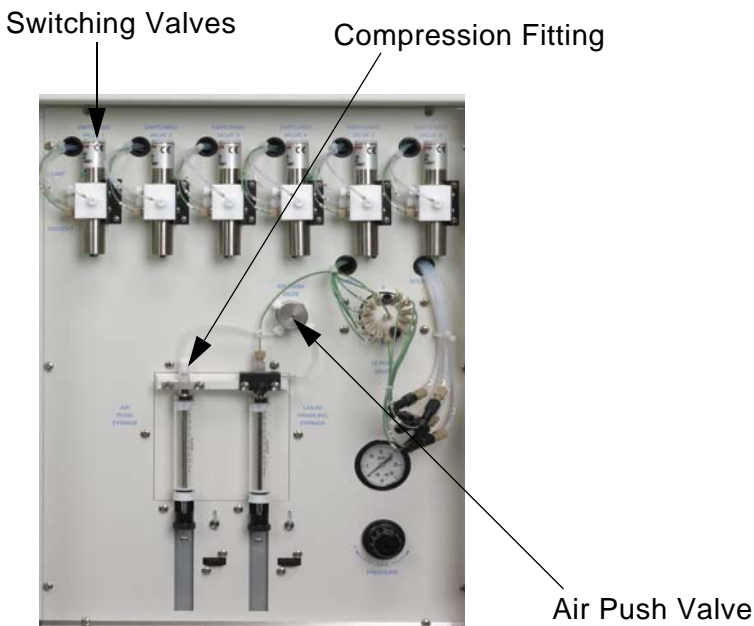

Figure B-15. Dionex AutoTrace 280 Left-Side View
1. Open the left-side door and locate the compression fittings on the switching valves, air push valve, and syringes (see Figure B-15).